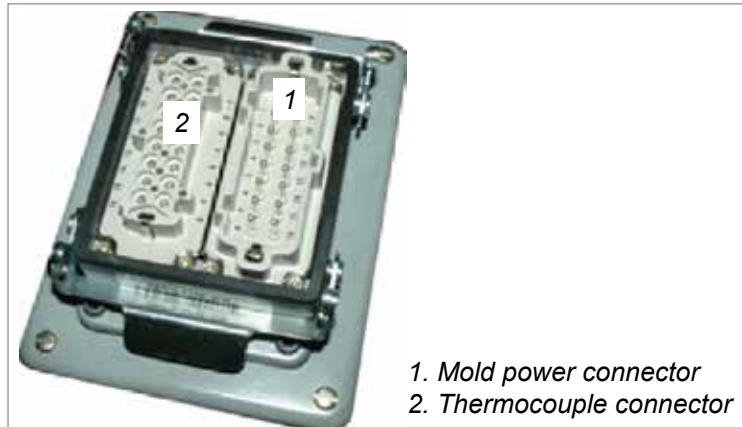

Figure 7-1 Mold plug
1. Measure the resistance between each pair of thermocouple wires on the mold's thermocouple connector. The resistance should be between 2.5 Ω and 25 Ω . See Figure 7-1.